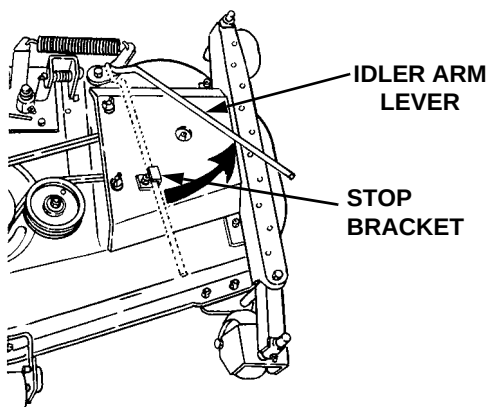

Figure 41
12. Disengage the deck idler arm lever from its stop bracket and release the spring tension by rotating the lever out and rearward (See Figure 41).